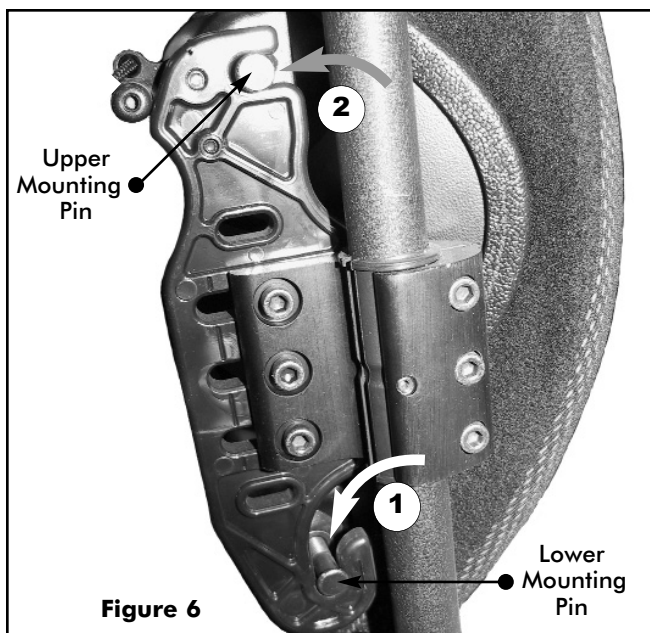

Figure 6
Step 1: Slide the lower mounting pins into the hooked slots at the bottom of each mounting plate (see **Figure 6**).